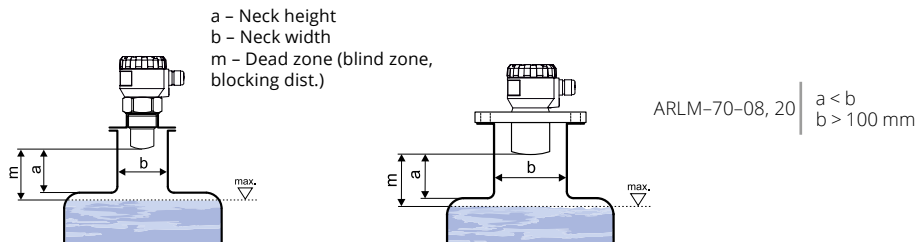

Fig. 4: Possible installation of the installation neck
- If the maximum level in the tank interferes with the dead zone, the level meter has to be mounted into a higher **installation neck**. In this way, the tank can be filled nearly up to the maximum volume. The inner neck surface has to be even and smooth (without edges and welded joints); the inner edge should be rounded where the radio wave leaves the pipe. The neck diameter should be as large as possible but the neck height should be as low as possible. Recommended dimensions of the input neck are given in Fig. 4.